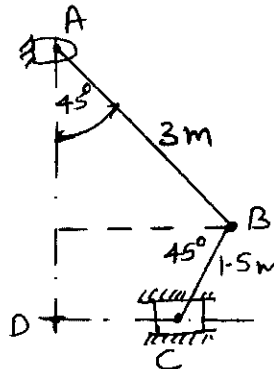

Fig.Q3
- 3 In the mechanism shown in Fig.Q3, the slider 'C' is moving to the right with a velocity of 1 m/sec and an acceleration of  $2.5 \text{ m/sec}^2$ . The dimension of the various links are  $AB = 3 \text{ m}$ , inclined at  $45^\circ$  with the vertical and  $BC = 1.5 \text{ m}$  inclined at  $45^\circ$  with the horizontal. Determine